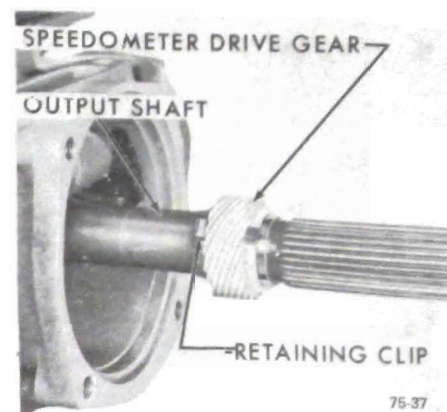

Figure 75-271
2. Align slot in speedometer drive gear with retaining clip and install. See Figure 75-271.